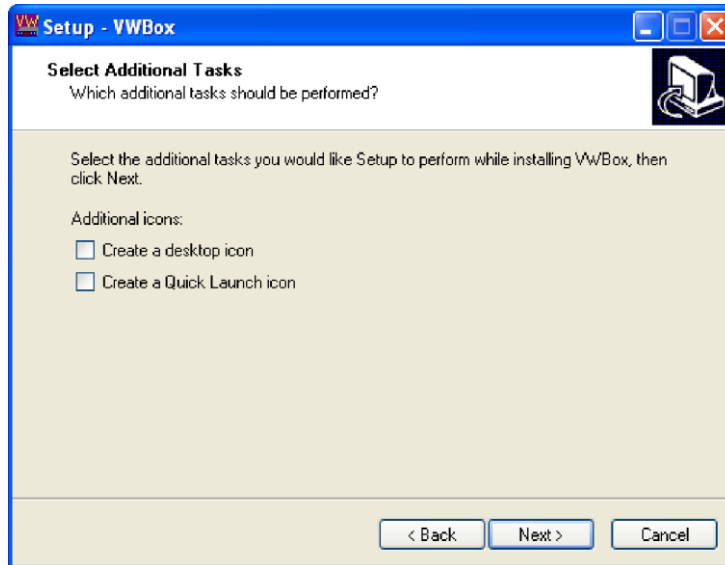

Figure 4-17: SmartOSD Additional Tasks
Step 8: The **Additional Tasks** window appears (**Figure 4-17**).